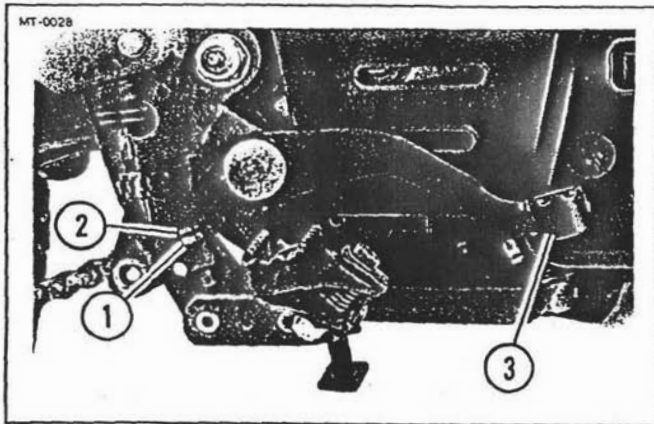

Figure 5-33. Rear Brake Pedal Height Adjustment
1. See Figure 5-33. Using a 10 mm open end wrench, loosen lock nut (1) and adjust stop screw (2) until brake pedal (3) is at desired height. Tighten locknut (1).